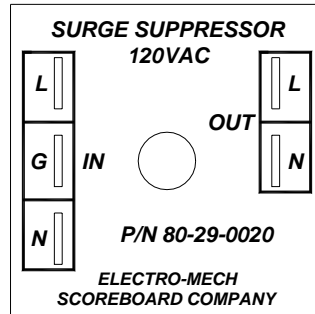

Figure 18 Surge Suppressor Terminals
6. Plug the ¼” quick disconnects on the ¼” tabs on the top of the module. The black wires should be connected to the ¼” tabs on the module labeled L. The white wires should be connected to the ¼” tabs on the module labeled N. The green wire should be connected to the ¼” tab on the module labeled G. Figure 18 shows the top view of the Surge Suppressor.